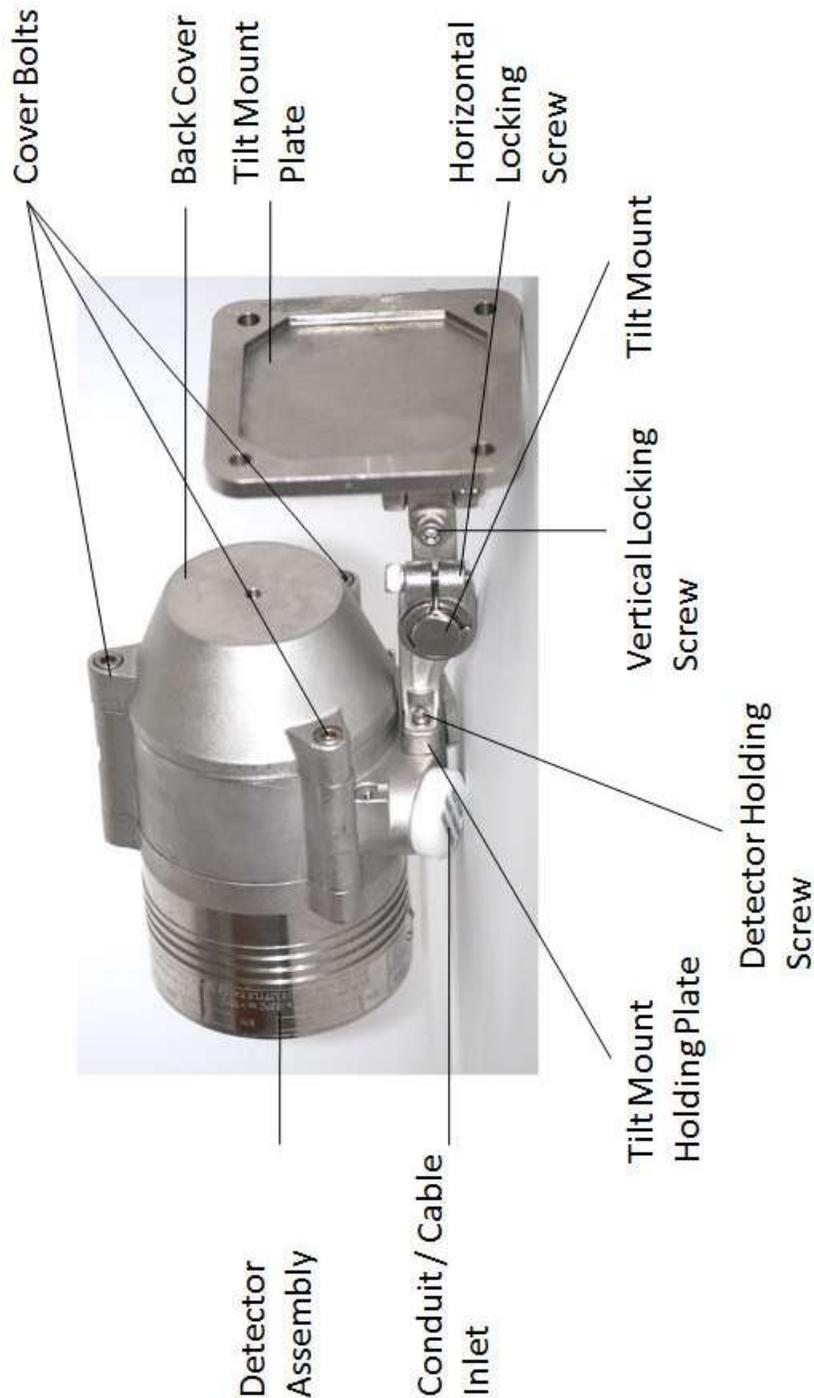

Figure 3: Detector with Tilt Mount
The Tilt Mount enables the detector to be rotated up to 60° in all directions. Figure 3 shows the Detector mounted on the Tilt Mount.
- 9 Place and secure the detector’s back cover by screwing the four (4) socket-head-screws in the Cover Bolts (Figure 3).